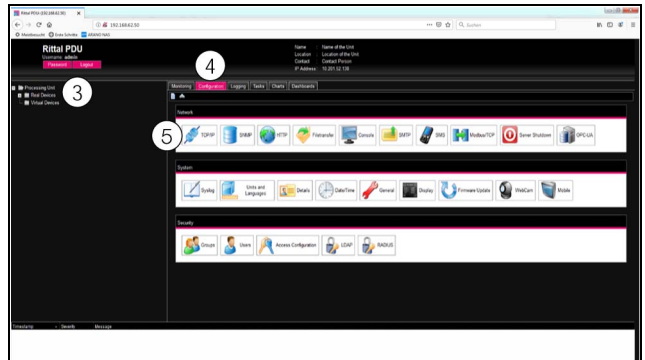

Fig. 18: Customise the TCP/IP settings
- Click the Login button to display the website of the device. The overview window for the device will appear (fig. 18).
The overview window for the device will appear (fig. 18).
- In the left-hand section of the overview window (navigation area), click the **Processing Unit** entry (fig. 18, item 3), and in the right-hand section (configuration area), click the **Configuration** tab (fig. 18, item 4).
- In the **Network** group box, click on the **TCP/IP** button (fig. 18, item 5).